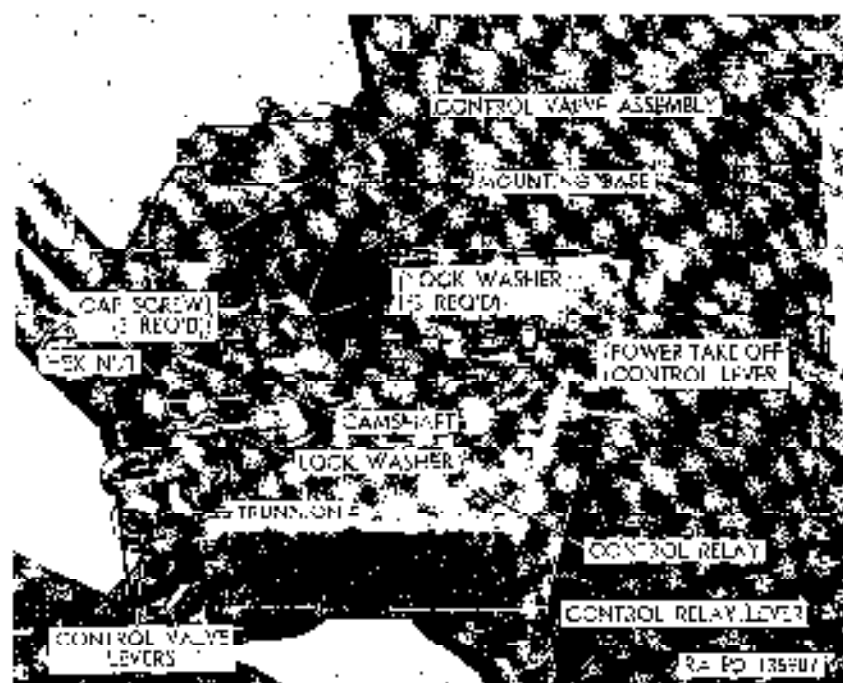

Figure 328. Exploded view of right side of control valve and dump body group and adapter required 321.
a. *Description.* The fifth wheel assembly, which is mounted on the rear of the chassis of the tractor truck M52 and on the front of the crane body of the tractor wrecker truck M246, consists of the fifth wheel (figs. 80 and 319), approach plates (figs. 328 and 330), and con-
- (3) Disconnect two hydraulic flexible lines (fig. 328) from ports at base of cylinder to be removed.
- (2) Position transmission shaft with cylinder on rear face of sub-frame cross member (fig. 328), position two bearing caps on shaft ends and secure caps to cross member with four cap screws and lockwashers.